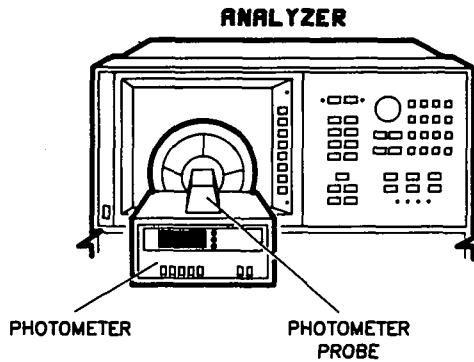

Figure 3. Maximum Intensity Adjustment Set-up
10. Center the photometer on the analyzer CRT as shown in Figure 3. Adjust the analyzer front panel knob until the photometer registers 100 NITs of output light if the glass bezel assembly is not installed. Adjust for 60 NITs if the glass bezel is installed.